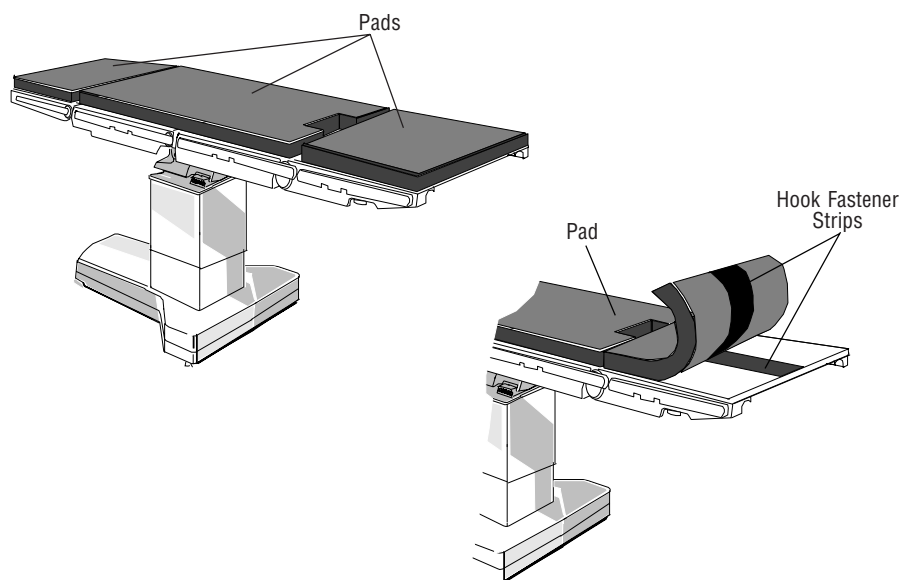

Figure 6-1. Remove Pads for Cleaning
- b. Remove tabletop pads by pulling upward to free them from hook fastener strips (see Figure 6-1) and place on another table or other flat surface.